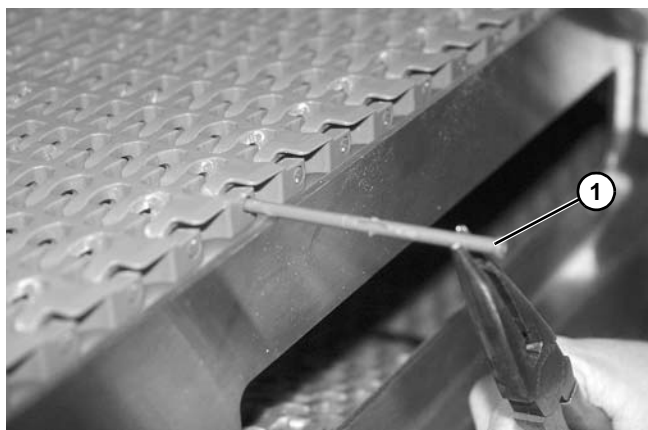

Figure 37
- Use needle nose pliers to remove belt rod (**Figure 37, item 1**).